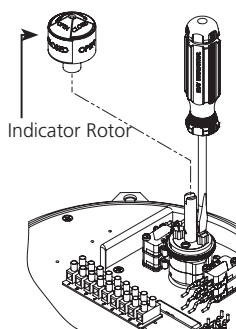

Figure 4. Indicator rotor pulled up from the indicator shaft
- 6.2.4.1 Remove the indicator rotor by pulling it away from the indicator shaft as shown in Figure 4.